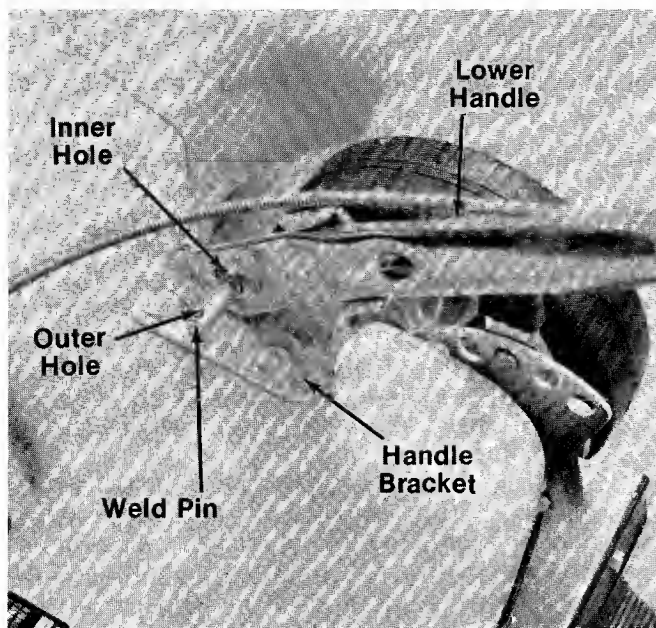

FIGURE 1.
2. Fasten lower handle in position over weld pins in handle mount brackets on deck. Secure with hairpin cotters in inner hole on weld pin. See figure 1.